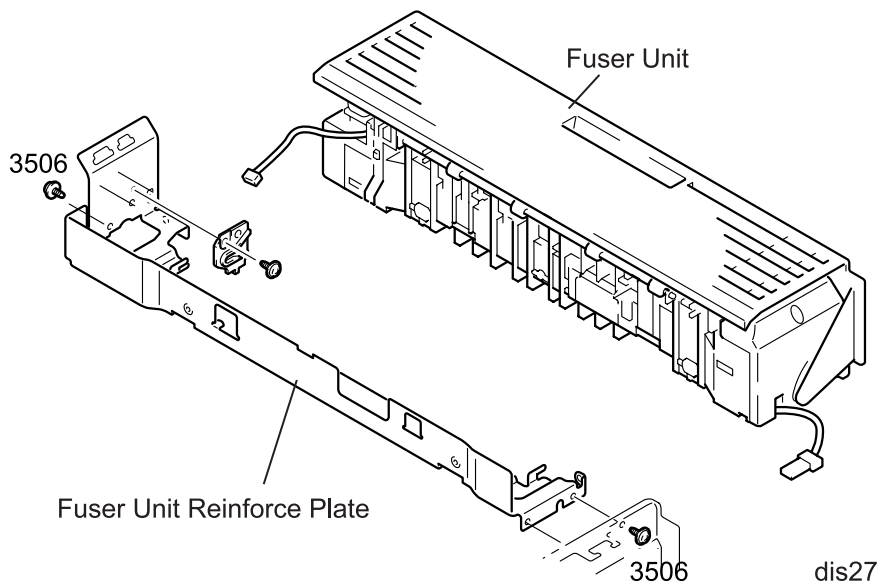

Figure 4-54. Fuser Unit Reinforce Plate Removal
9. Remove 5 screws (3506; two at the front and three at the rear) securing the Fuser Unit Reinforce Plate to the printer frame, and remove the Fuser Unit Reinforce Plate. (See Figure 4-54.)